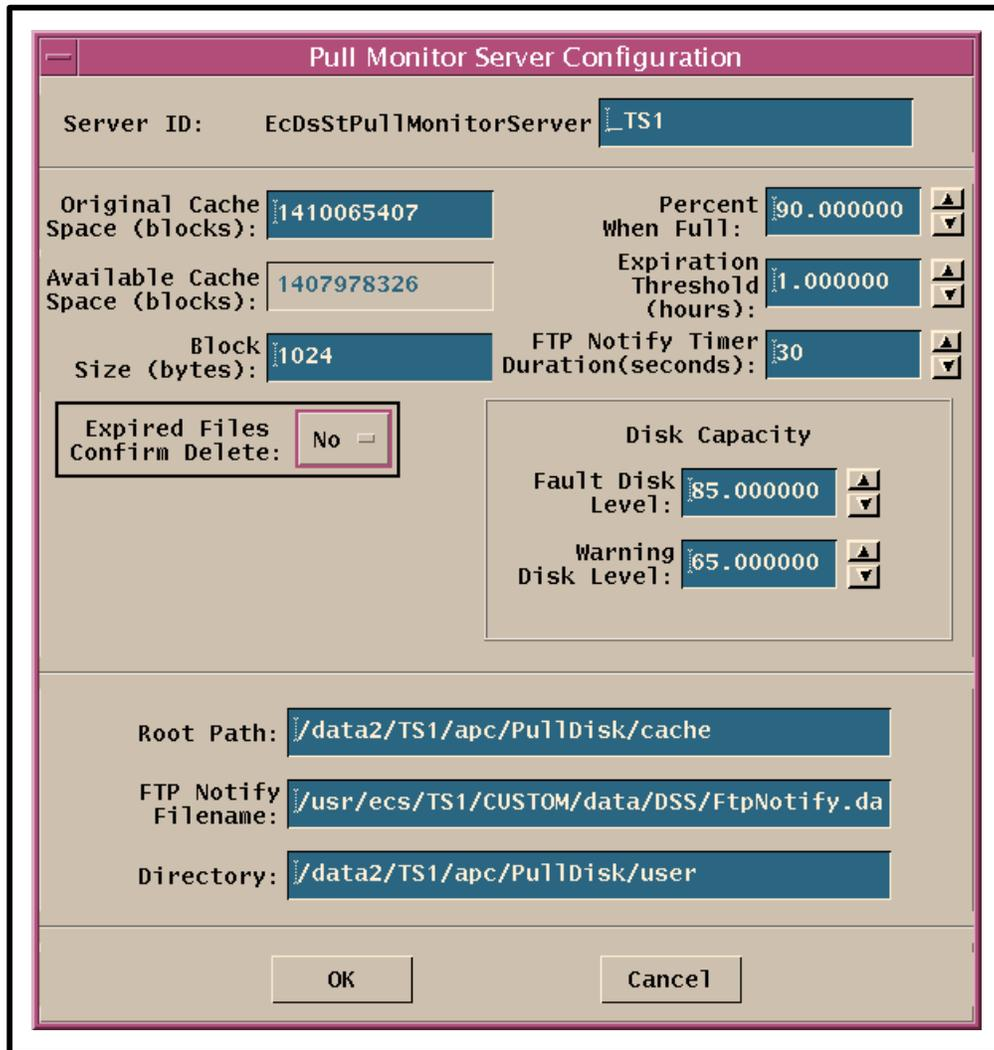
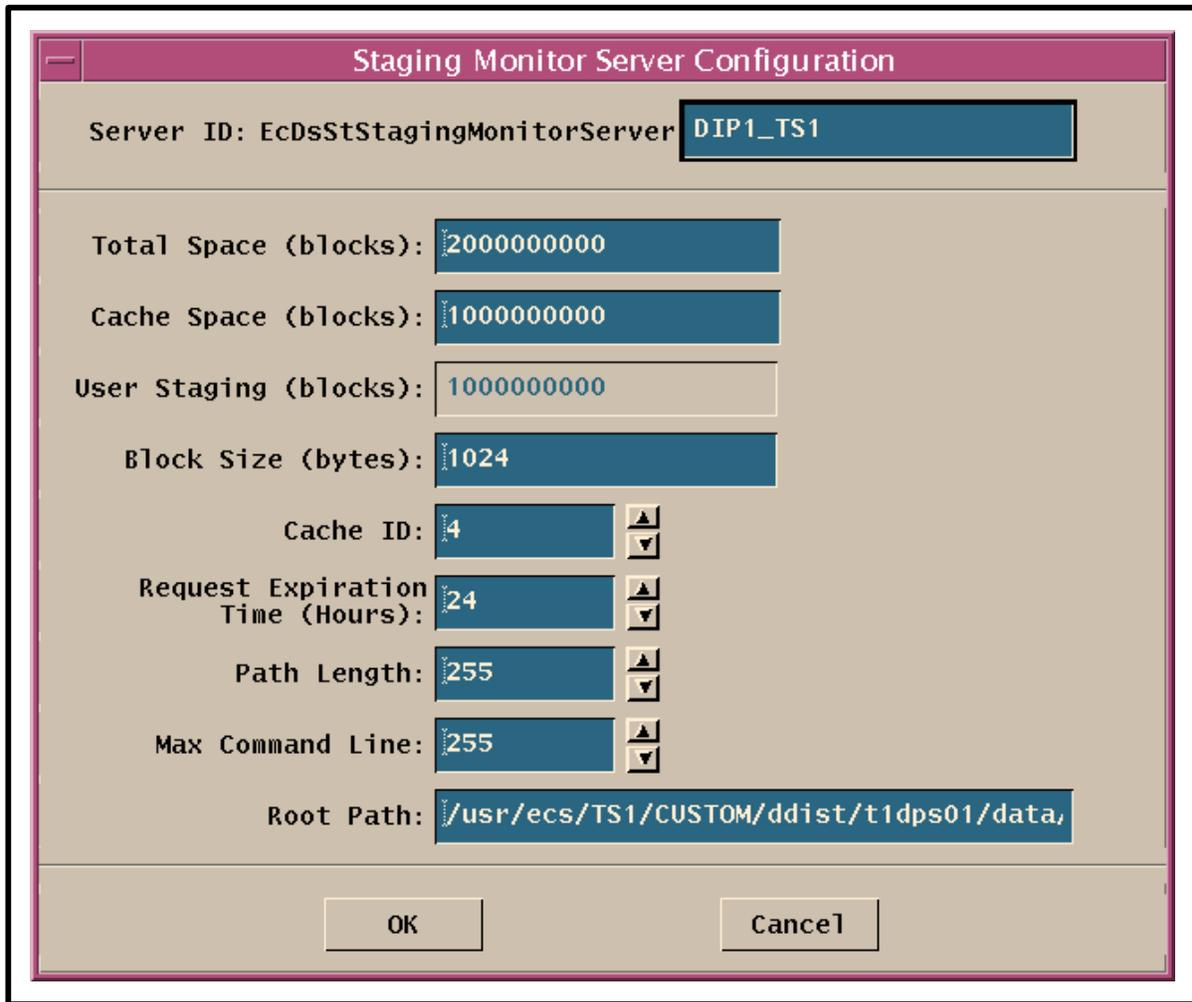

Figure 25. Pull Monitor Configuration Dialogue Box
Figure 26. Staging Monitor Configuration Dialogue Box
- The appropriate **Pull Monitor Configuration** (Figure 25) or **Staging Monitor Configuration** dialogue box (Figure 26) is displayed.
- The **Pull Monitor Configuration** dialogue box (Figure 25) displays data in the following fields:
- The **Staging Monitor Configuration** dialogue box (Figure 26) displays data in the following fields: